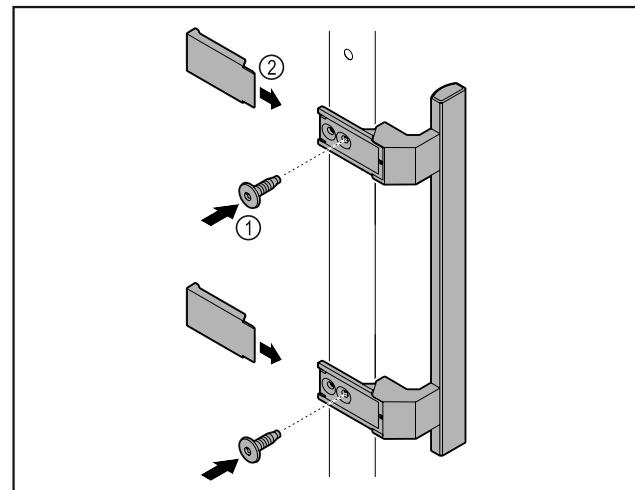

Fig. 7
- Attach handle from accessory kit to the door using supplied screws Fig. 7 (1).
- ▶ Put on cover Fig. 7 (2).